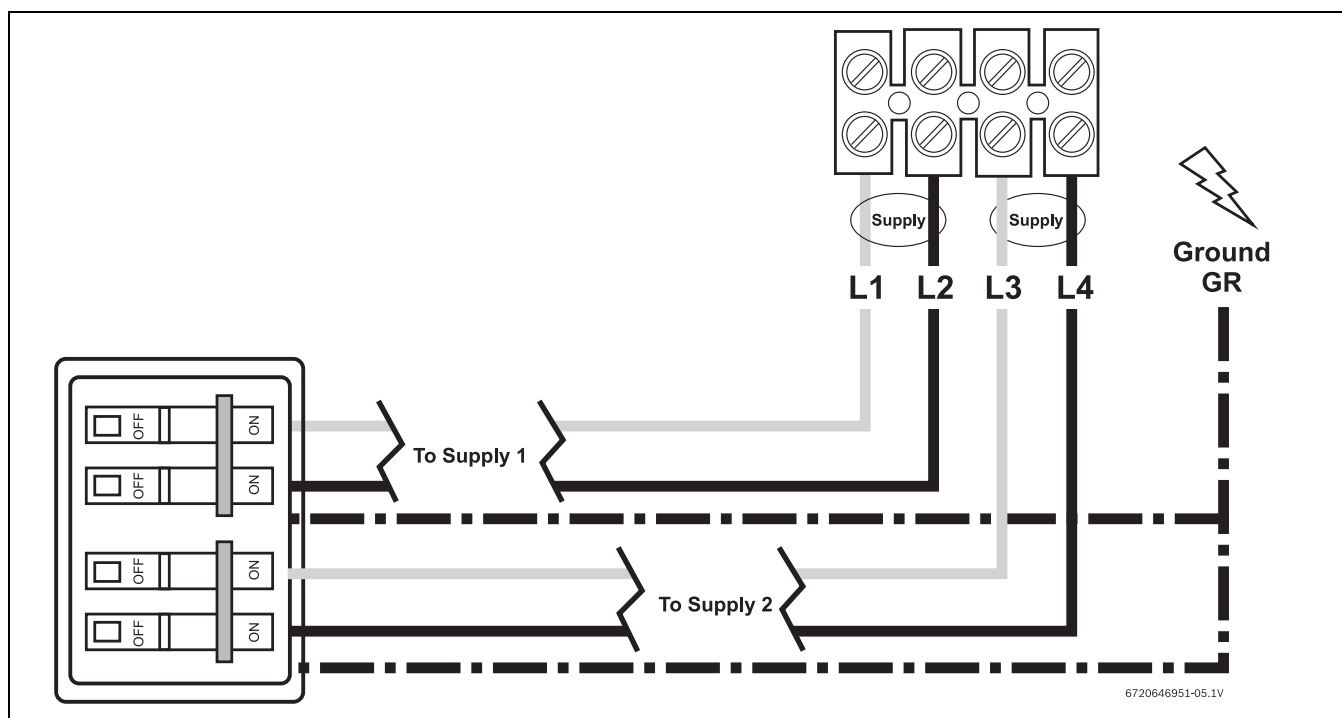
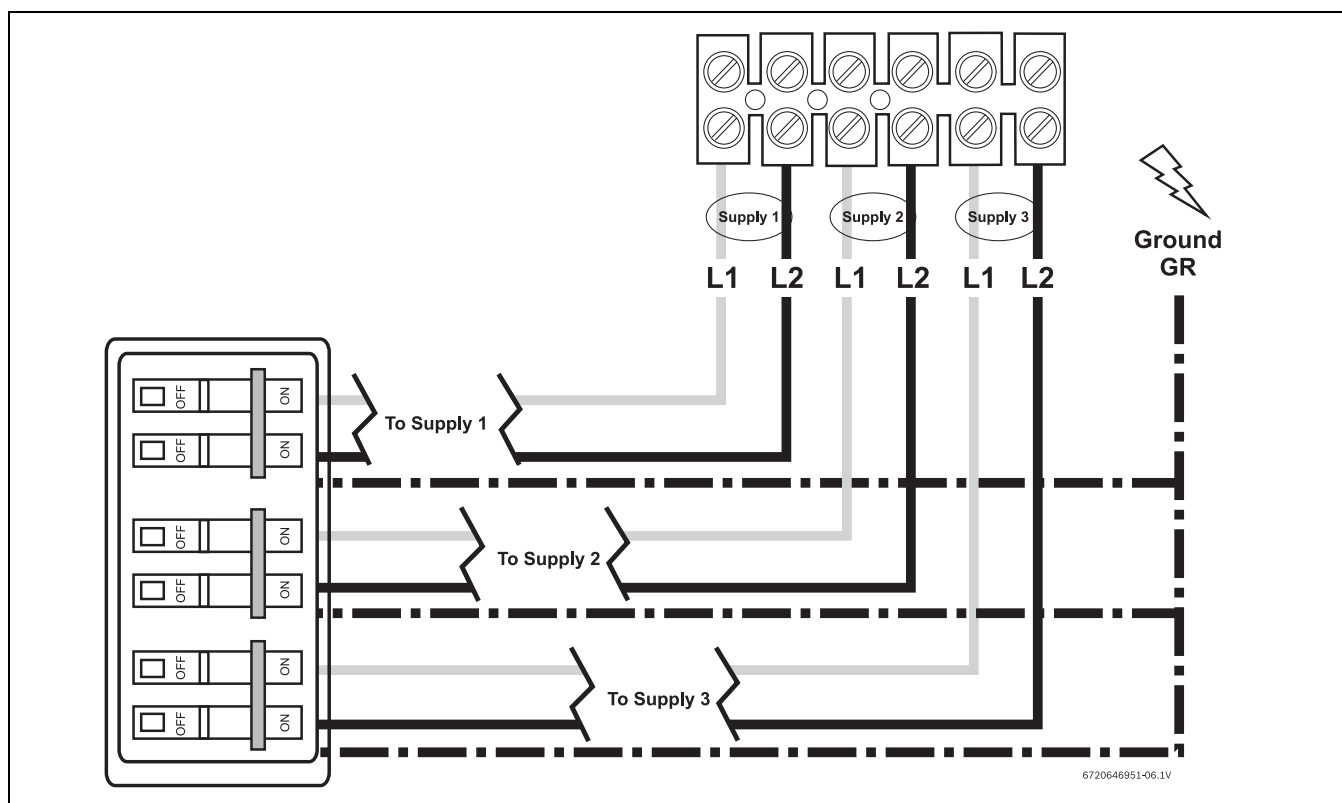

Fig. 7 AE115 terminal block connection (U.S.A. only)
Fig. 8 AE125 terminal block connection (U.S.A. only)
- Strip back the insulation on the power wires about ½ inch. Connect the live wires to the terminals marked "L1" and "L2." There are two pairs of live wires in the AE115 and three pairs of live wires in the AE125. (See Fig. 7 and Fig. 8, page 15).
- Any insulation on the ground wires should be stripped back about ¾ inch. The ground leads must be connected to the pillar terminal marked "GR". (See Fig. 7 and Fig. 8, page 15).